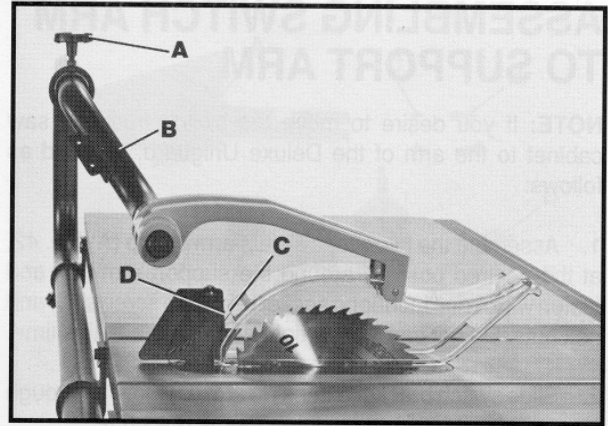

Fig. 38
26. **IMPORTANT:** THE BACK END OF PLASTIC SHIELD (C) FIG. 38, SHOULD BE POSITIONED AND SET SO IT IS NO FURTHER THAN 3/8 INCH AWAY FROM FRONT EDGE OF SPLITTER (D), AT ALL TIMES. IF AN ADJUSTMENT IS NECESSARY, LOOSEN LOCK HANDLE (A) AND ROTATE EXTENSION ARM (B).